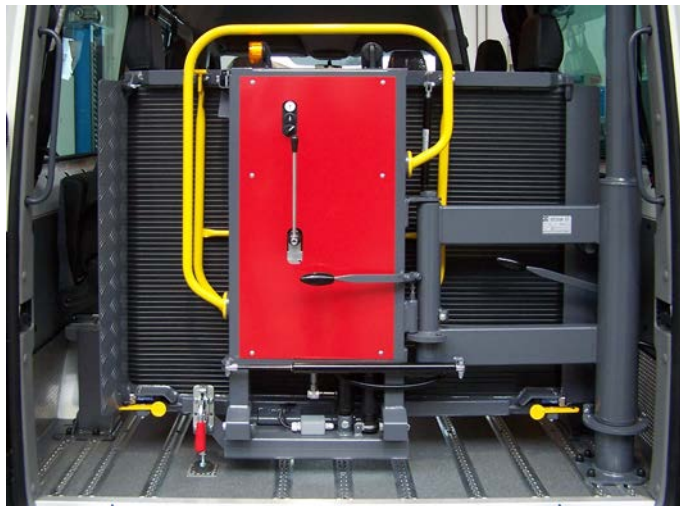

Figure 21: 0° Position
- ⇒ Release the main swivelling column unlatching lever (4).
- ⇒ Swivel the lifting unit in to the stop in the 0° position (see Figure 21, page 35).